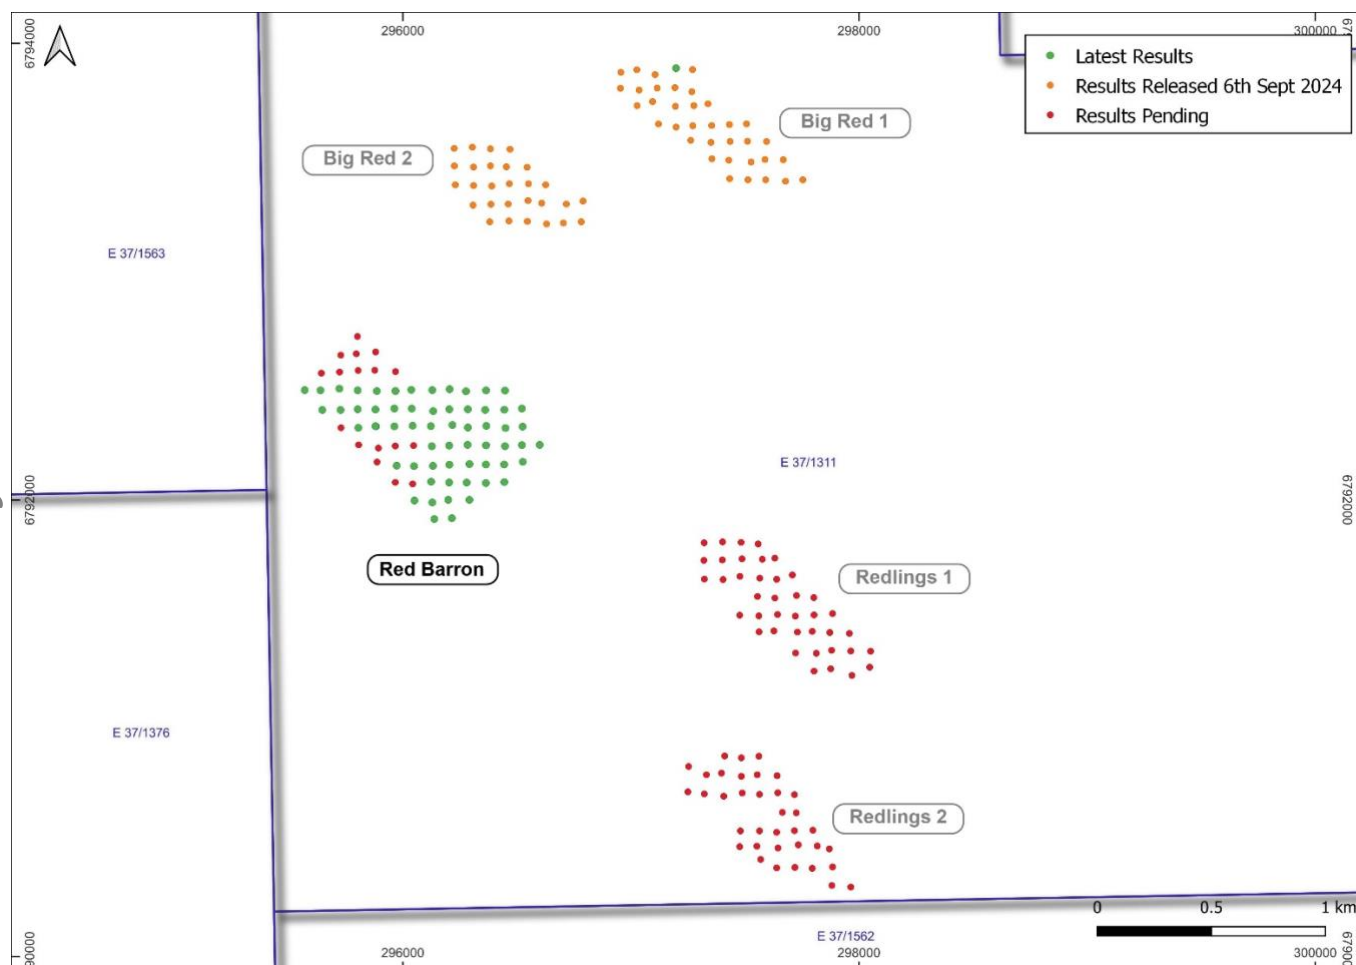

Figure 1 - Location of Redlings prospects with SLRC drill hole collars showing assays received and pending.
The 220-hole, 1,952m SLRC drilling program, spread over approximately 8km², was designed to test extensive surficial mineralisation at the Project. The drilling program had an average hole depth of only 9m and tested five (5) prospects of enhanced soil geochemical anomalism present in the centre of the Redlings tenure (tenement E 37/1311). The latest batch of results are for 60 of the 78 holes completed at the Red Barron Prospect (Figure 1) and follows on from the results from the Big Red 1 and the Big Red 2 Prospects released earlier this month (refer ASX Release 6 Sept 2024).